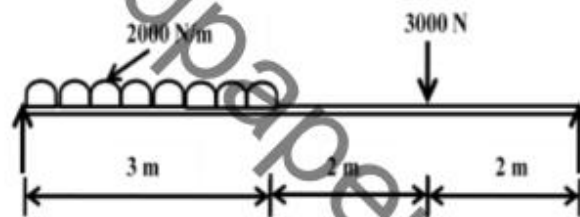

Figure: 1
- 2.a) Draw the shear force and bending moment diagrams for the simply supported beam as shown in Figure 1. Also calculate the maximum bending moment.